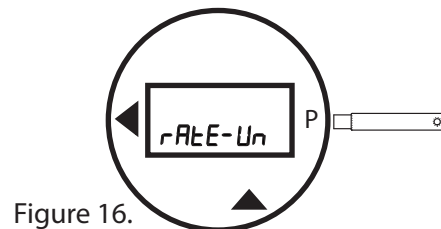

Figure 16.
- Pass the wand over the **P** to enter the lock code. The menu selection **rAtE-Un** will appear (Figure 16). This is the first item in the first menu level.